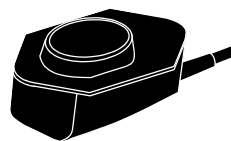

Figure 5-8 Pediatric Paddle (Bottom)
- 4 The pediatric paddle is now exposed and ready for use (refer to Figure 5-8).